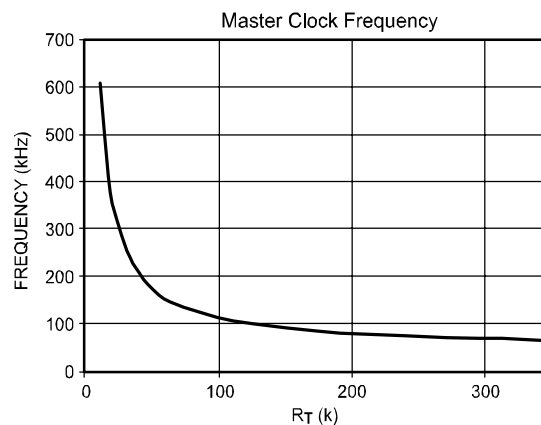

Figure 18. R_T vs. Frequency
The clock frequency on the oscillator is set using an external resistor, connected between R(T) pin and ground. The frequency follows the graph, as shown in Figure 18. The minimum clock frequency is $50kHz$, which is when R(T) pin is left open. Select the value of R(T) as shown in the equation below. This equation is valid for all $F_{OSC} > 50kHz$: